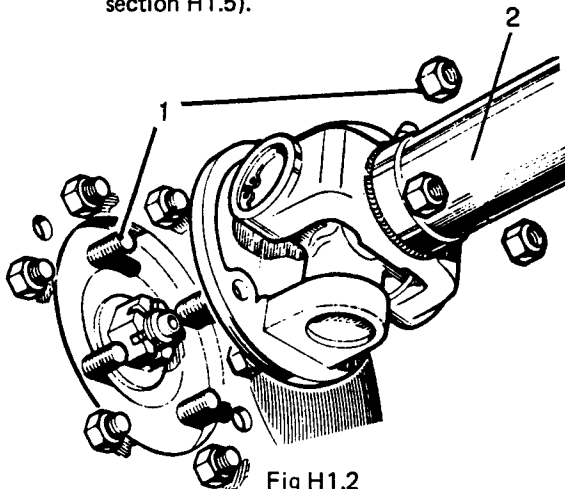

Fig H1.2
- (3) Refer to Fig H1.2. Remove the rear propeller shaft fixings (1) at the transmission brake.
- (4) Move aside the shaft (2).